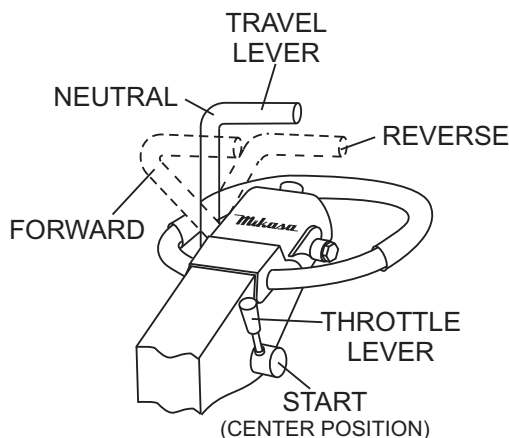

Figure 13. Throttle Lever (START)
2. Move the throttle lever to the **START** position (Figure 13).
1. Return the throttle lever to the **START** position (Figure 13). Allow the machine to cool down for 2 to 3 minutes.